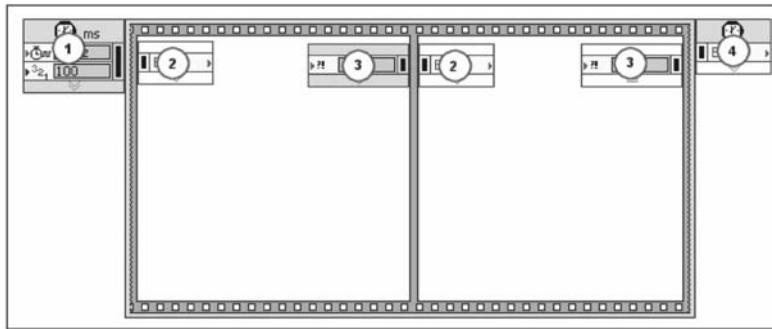

Figure 8.4 Timed Sequence structure.
The Timed Sequence includes (1) Input and (4) Output nodes, and (2) Left and (3) Right Data nodes for each frame as shown in Figure 8.4. By default, nodes of the Timed Sequence do not display all of the available input and output terminals. You can resize nodes or right-click a node and use the shortcut menu to display hidden terminals.